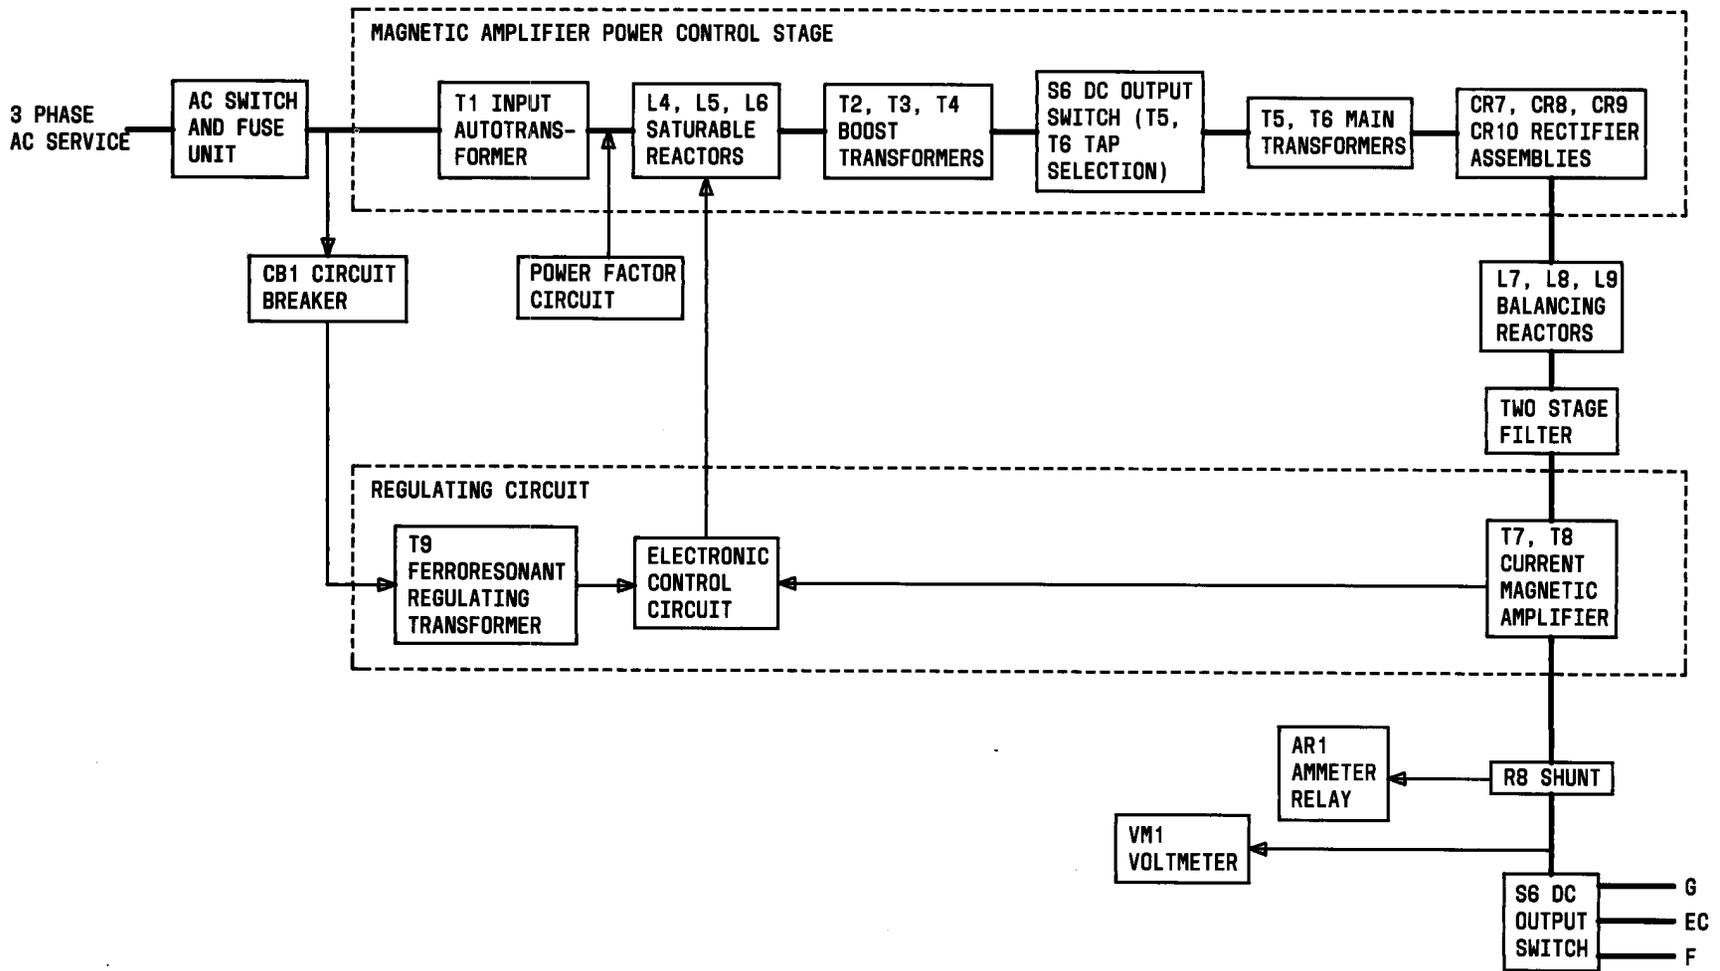

Fig. 2—KS-19216 Rectifier—Block Diagram
4.02 The rectifiers (Fig. 2) consist of a magnetic amplifier power control stage which is controlled by a regulating circuit. The regulating circuit senses dc output current for the purpose of current signaling and current and voltage limitation. Desired correction in the power output of the rectifier is obtained by regulating the current flow through L4, L5, and L6 saturable reactors. The control current through the reactors is regulated by the electronic control circuit which is a part of the regulating circuit.